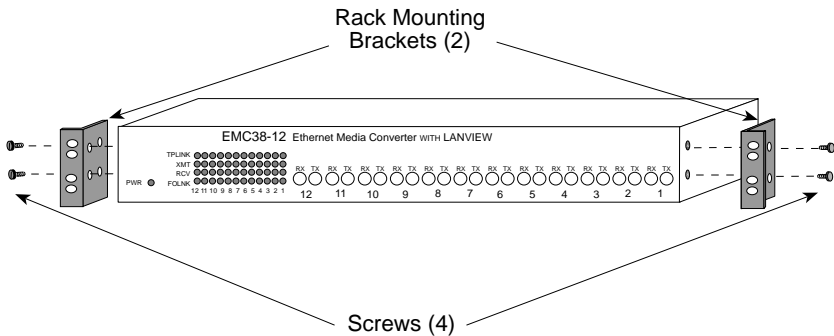

Figure 2-1. Installing the Rack Mount Brackets
1. Remove four cover screws (two from each side) located along the front edges of each side of the EMC38-12. Figure 2-1 shows the location of the screws.